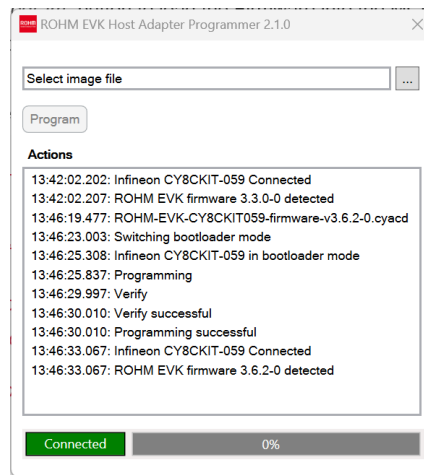

Figure 51 Firmware programming done / CY8CKIT-059
- Wait for the programming to be completed and for the status to become successful. (Figure 51).